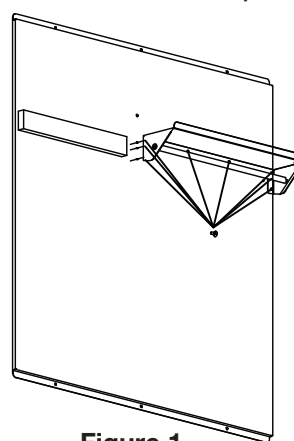

Figure 1
2. Install the shelf using 8 supplied screws ST4×8 (see Figure 1).